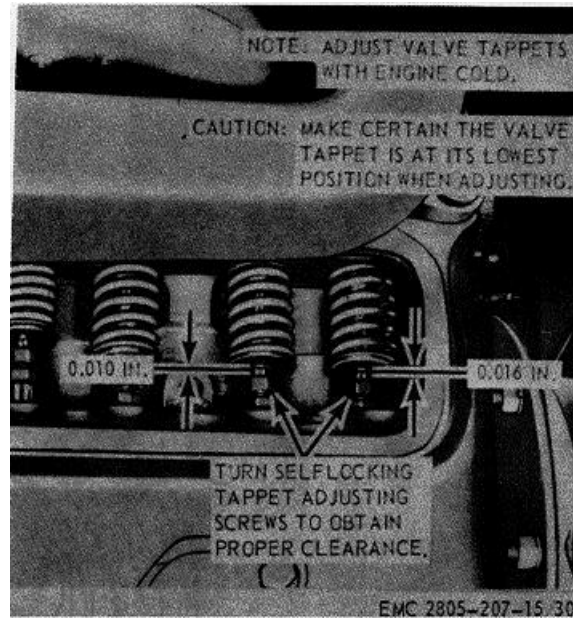

Figure 3-48. Valve tappet adjustment.
b. Valve Tappet Adjustment. Adjust valve tappet clearance as illustrated in figure 3-48.